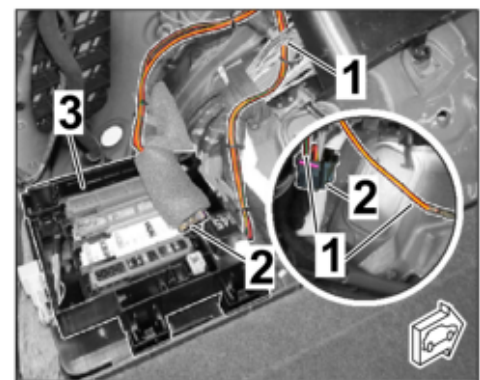

Figure 11
- 2.3.5 Route RD/GN and RD/YE lines to connector B (preparation). (⇒ *Figure 11*).
Release connector B, connect lines RD/GN and RD/YE as described in Step 2.3.2 ⇒ *Figure 11 -Magnifier-*.